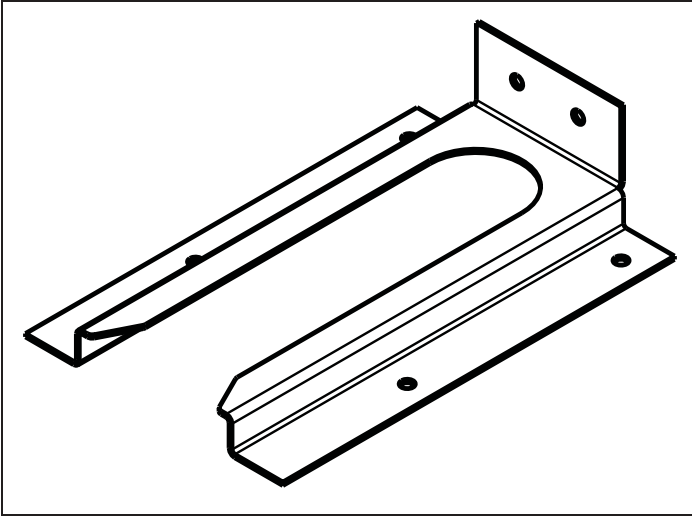
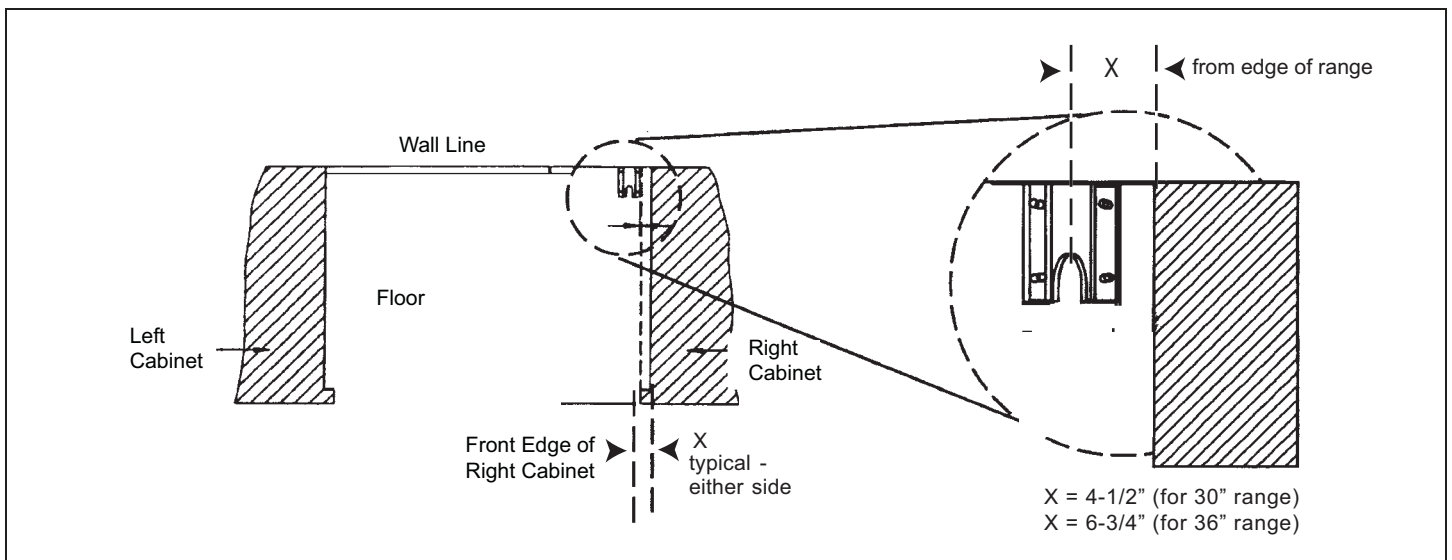

Figure 6: Anti-tip Bracket
Figure 7: Placement of Anti-Tip Bracket (Top View)
See Figure 6 and Figure 7.
1. Place bracket on floor in position shown in Figure 7 (Bracket may be used in either corner of the installation area).